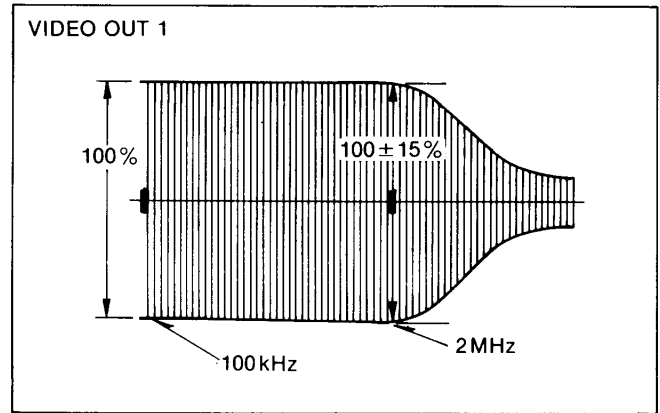

Figure E29
4. Adjust VR3005 so that the playback frequency response becomes the ratio of 100 : 100 +/- 10 at the marker points of 100kHz and 2MHz as shown in Figure E29.